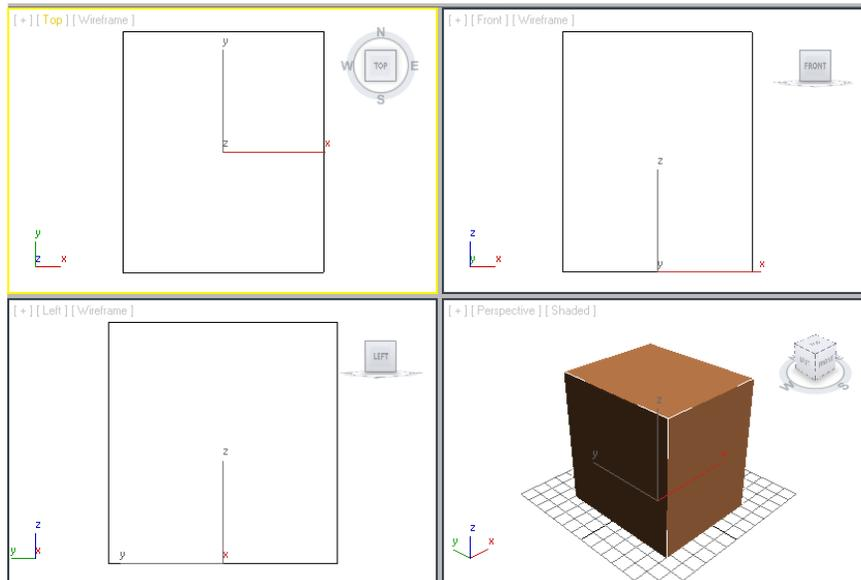

Figure 2-41 The box displayed in viewports
4. Choose the **Zoom Extents All** tool from the viewport navigation controls to view the box; the box is displayed in all viewports, as shown in Figure 2-41. Alternatively, press the Z key to see the box properly in viewports.